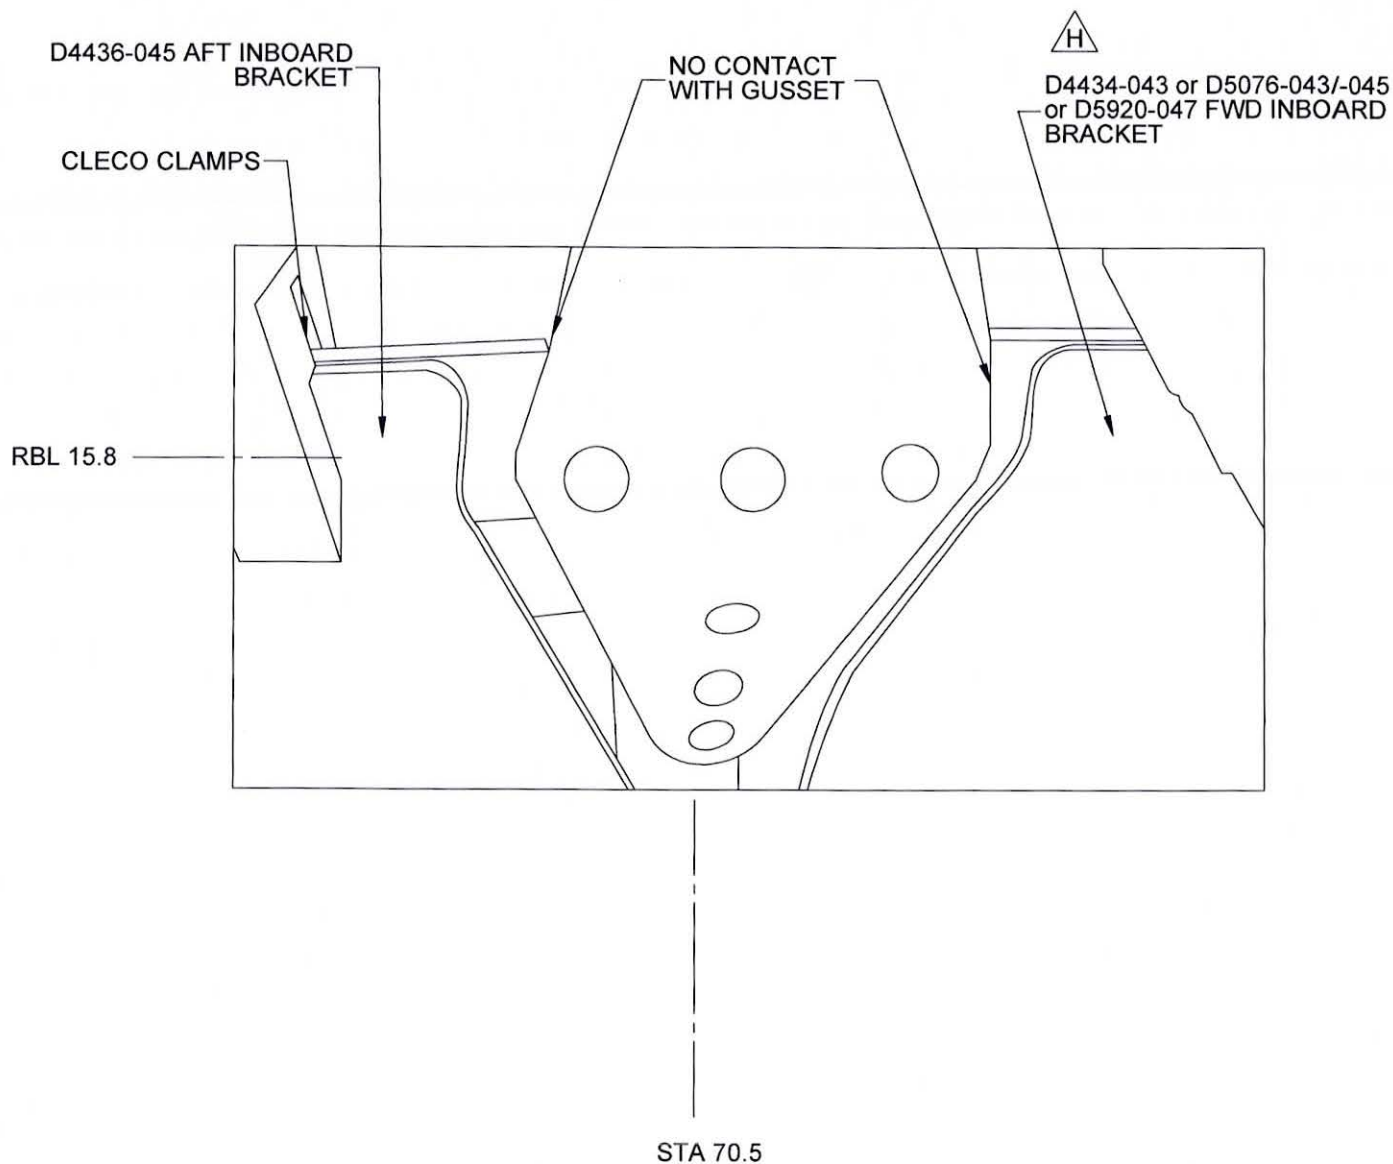

**Figure 4. D4436-043/-049 & D4435-043/-047 Brackets Installation**
- Confirm that the D4436-043/-049 Aft Outboard Bracket and beam angle are parallel as shown in Figure 4.